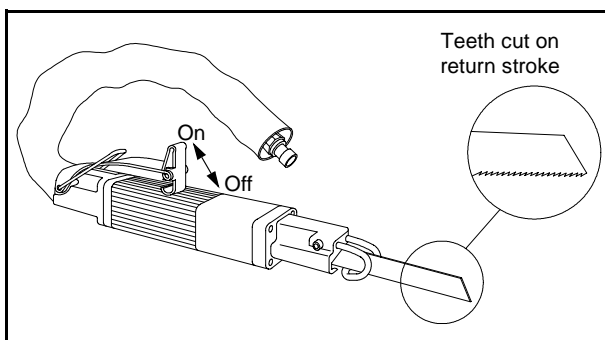

Fig 3.6 Air File Saw (Model AF 10)
- Model AF 10 (see Fig 3.6).
The AF10 (see Fig 3.6) is a later model and has the following additional features: